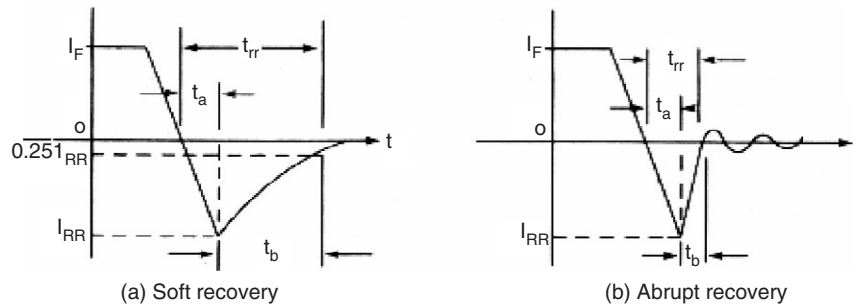

FIGURE 2.3 Diode reverse recovery with various softness factors.
- **Reverse recovery time  $t_{rr}$**  is the time interval between the application of reverse voltage and the reverse current dropped to a particular value as shown in Fig. 2.3. Parameter  $t_a$  is the interval between the zero crossing of the diode current to when it becomes  $I_{RR}$ . On the other hand,  $t_b$  is the time interval from the maximum reverse recovery current to approximately 0.25 of  $I_{RR}$ . The ratio of the two parameters  $t_a$  and  $t_b$  is known as the softness factor (SF). Diodes with abrupt recovery characteristics are used for high frequency switching.